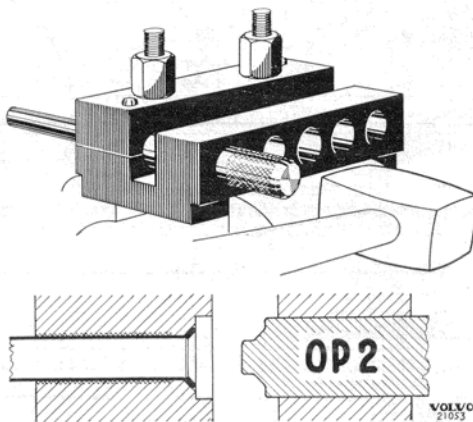

Fig. 28. Flanging brake pipe.
5. Replace the drift with OP 2 (Fig. 28) and knock this in until it bottoms.